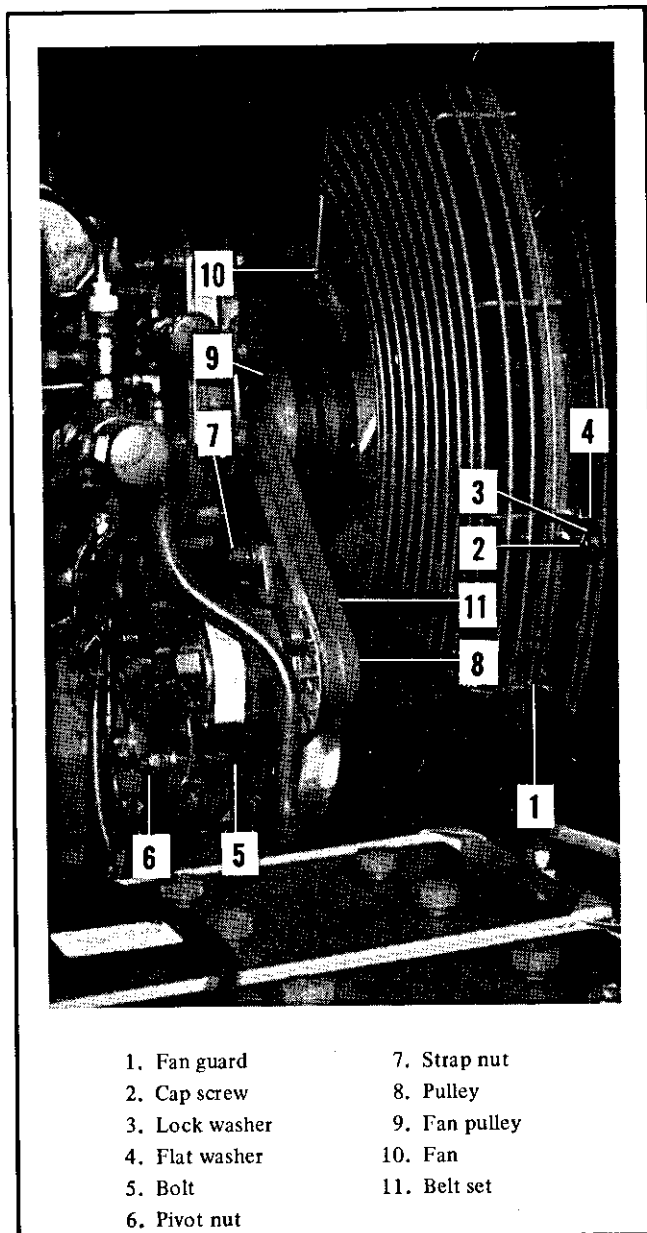

Figure 5-12. Drive belts
5-27. **DRIVE BELTS** (Figure 5-12). Remove cap screws (2, figure 5-12), lock washers (3), flat washers (4) and fan guard (1). Loosen bolts (5), alternator pivot nut (6), and adjusting strap nut (7). Move alternator in direction to loosen drive belt set (11). Remove belts from alternator pulley (8), crankshaft pulley, and fan pulley (9). Remove belt set (11) by weaving over fan (10) blades. Assemble in the reverse of disassembly and adjust belt tension.